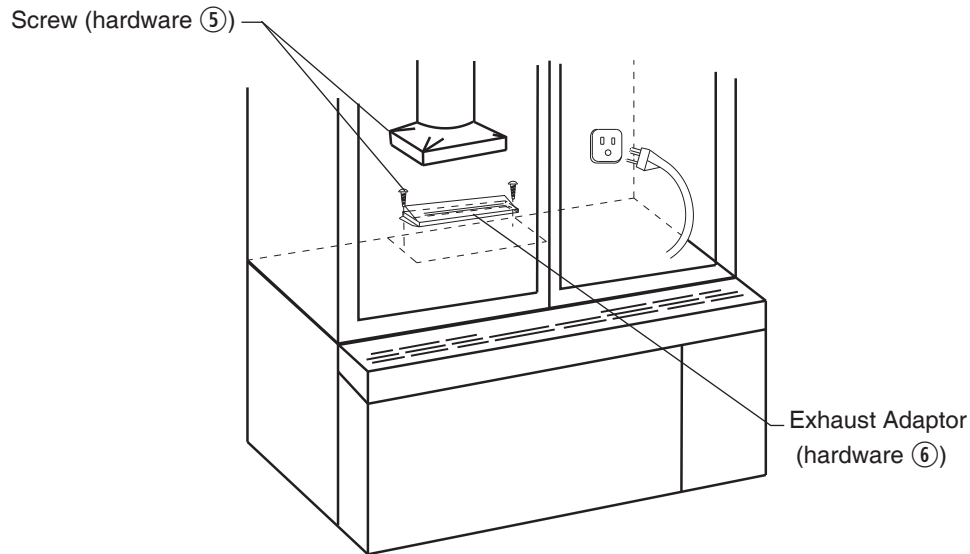

Fig. 5-1
1. Mount Exhaust Adaptor (hardware item ⑥) on top of the oven with two $\frac{3}{8}$ " screws. (hardware item ⑤) (Fig. 5-1)